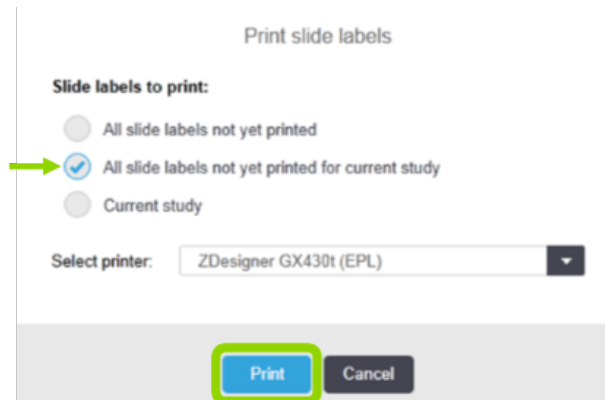

Figure 44: Print slide labels window
9. In the **Print slide labels** window (see Figure 44), select **All slide labels not yet printed for current study** and click on **Print**.